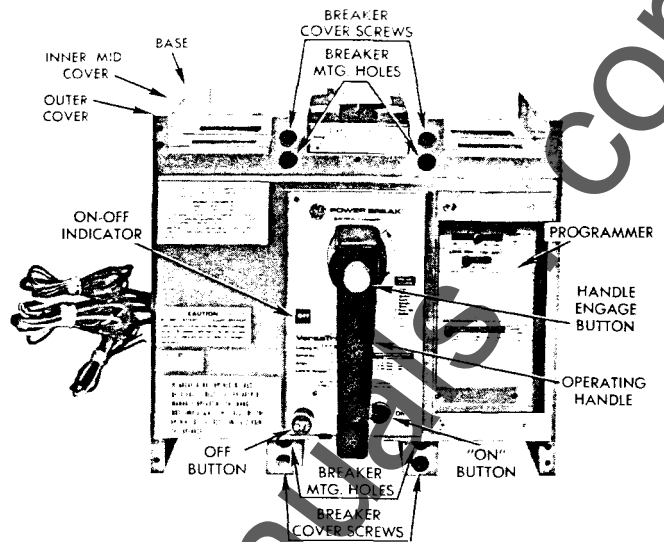

Fig. 6. 600-800A Frame Electrical Breaker
- c. Remove Four outer cover mounting screws (Fig. 6 & 7).
- a. Position handle at the home position (6 o'clock) on the outer cover. Align outer cover mounting screw holes with those of the inner cover and install four cover mounting screws, see Figs. 6 and 7. Secure with 50 to 60 inch pounds torque.